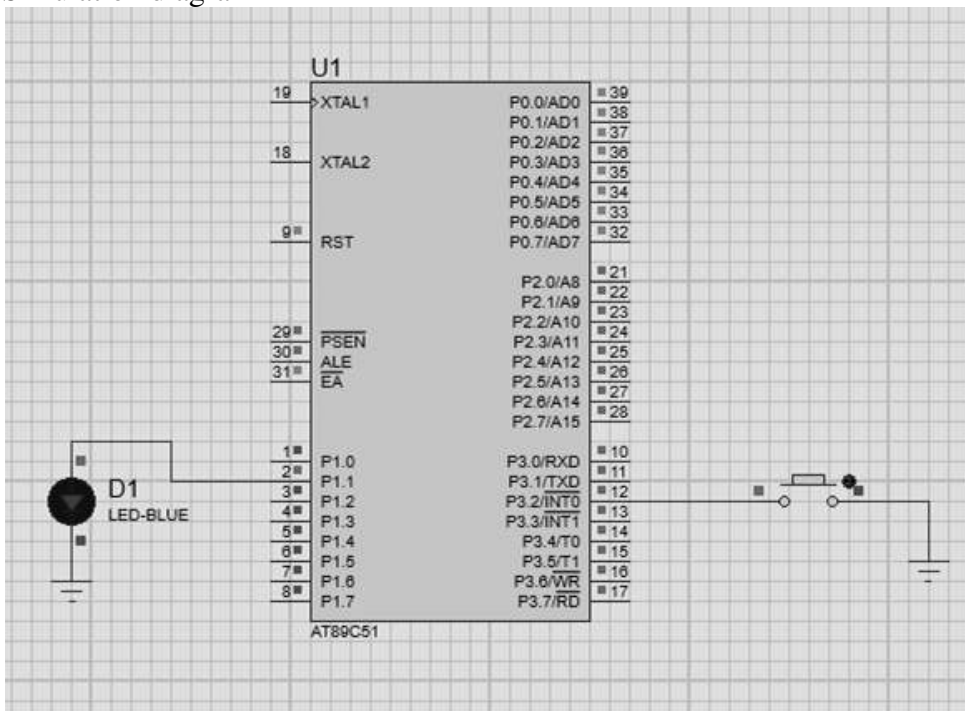

Fig 15. 4 Simulation diagram
**Step 2: Flowchart****Fig 15 .6 Flowchart to turn LED ON with microcontroller interrupt.****Step 3: Assembly Language Program**